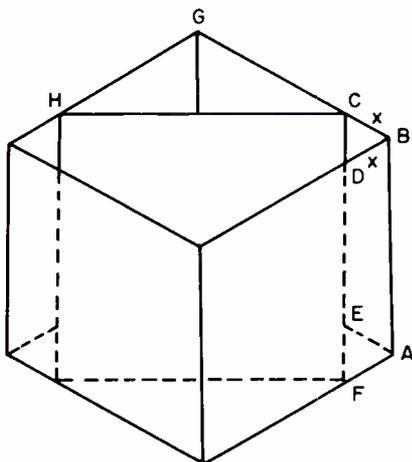

FIG. 1.
**SOLUTION:** In Fig. 1, mark  $\overline{DB} = \overline{CB}$ , and  $\overline{EA} = \overline{FA}$ , and call each of these segments X. Triangles FAE and DBC when joined by straight lines form a prism. Since they are isosceles right triangles,  $CD = \sqrt{2} \times$  and the line  $\overline{CF}$ , a side of the metal square, is a diagonal of the rectangle  $\overline{CDEF}$ , Fig. 2. and therefore  $\overline{CF} = \sqrt{1^2 + (2x)^2}$ .  $\overline{CF}$  equals  $\overline{CH}$ , the hypotenuse of the triangle  $\overline{CGH}$ , or  $\overline{CF} = \sqrt{2(1 - X)}$ .